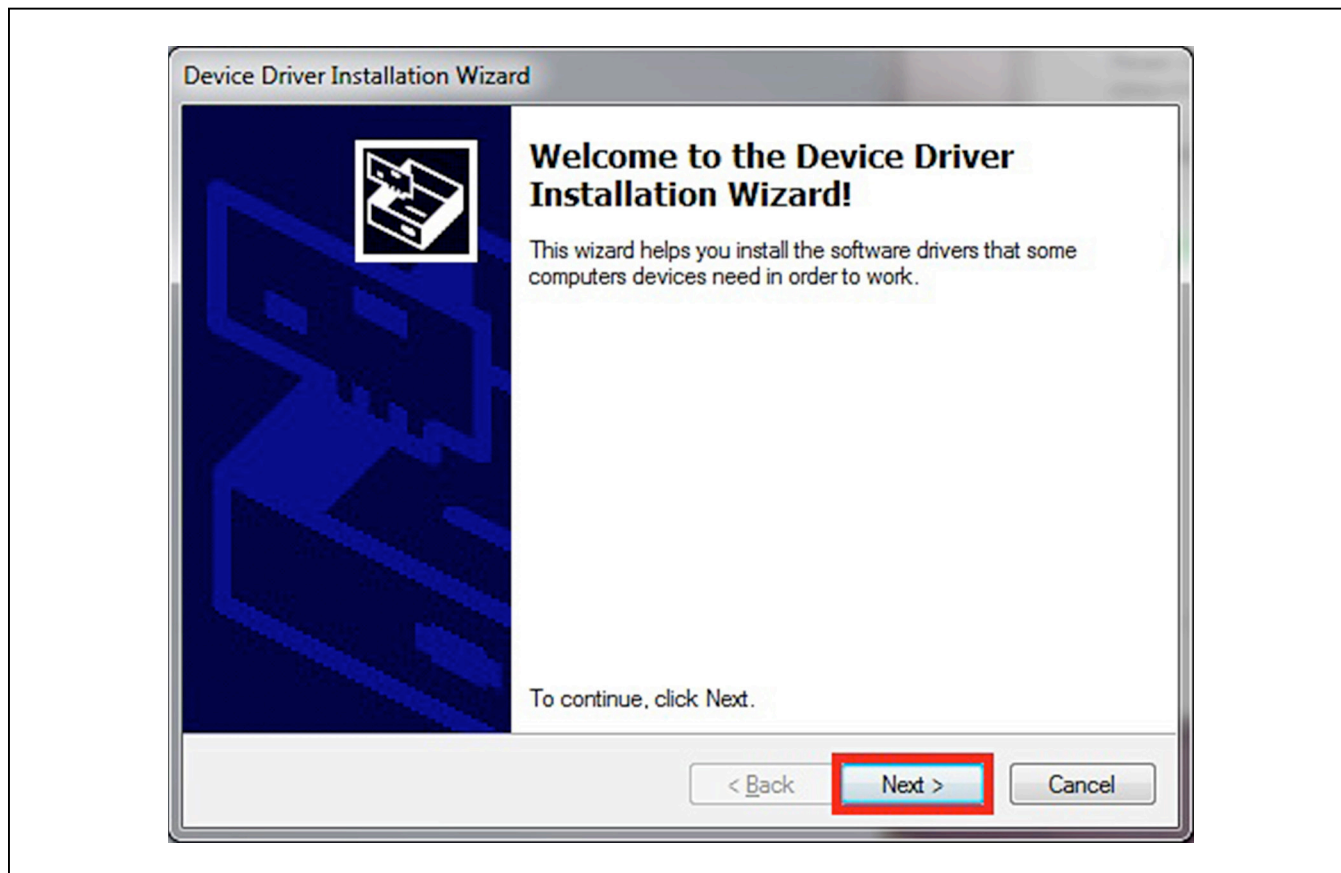

Figure 6. Device Driver
- 8) Click on **Next** when the Device Driver Installation Wizard appears (Figure 6).